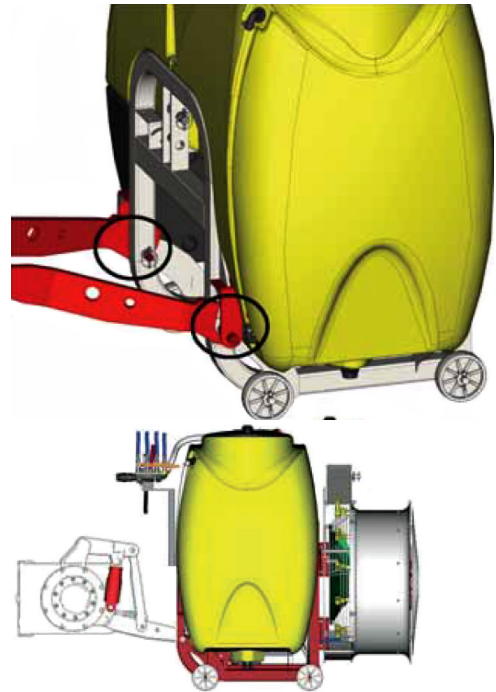

Figure 8
27) The machine can be mounted to any tractor of suitable power with a 3-point suspension system. Bring the lower hydraulic lifting arms of your tractor by maneuvering in a way that they will approach the lower connecting pins of the machine. Get off the tractor and attach the safety pins by connecting the lifting arms on the right and left to the pins. **(Figure 8)**